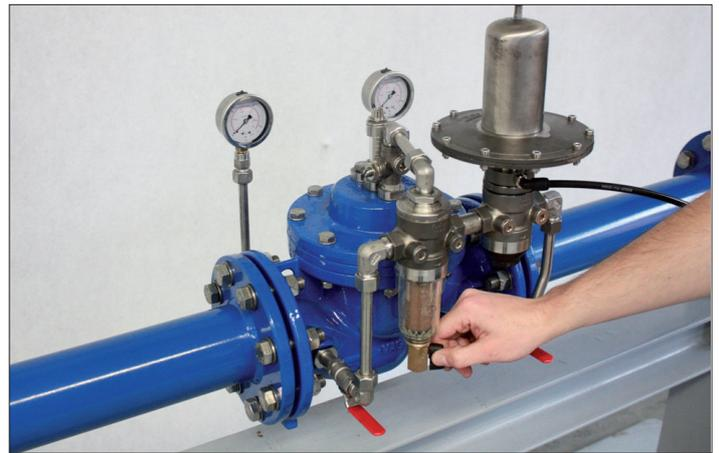

Figure 34: Opening the stop cock
- The filter integrated in the control circuit must be purged. For purging, open the stop cock at the filter and leave it open until all dirt particles and any trapped air have been removed (see Figure 34). After purging do not forget to close stop cock again.